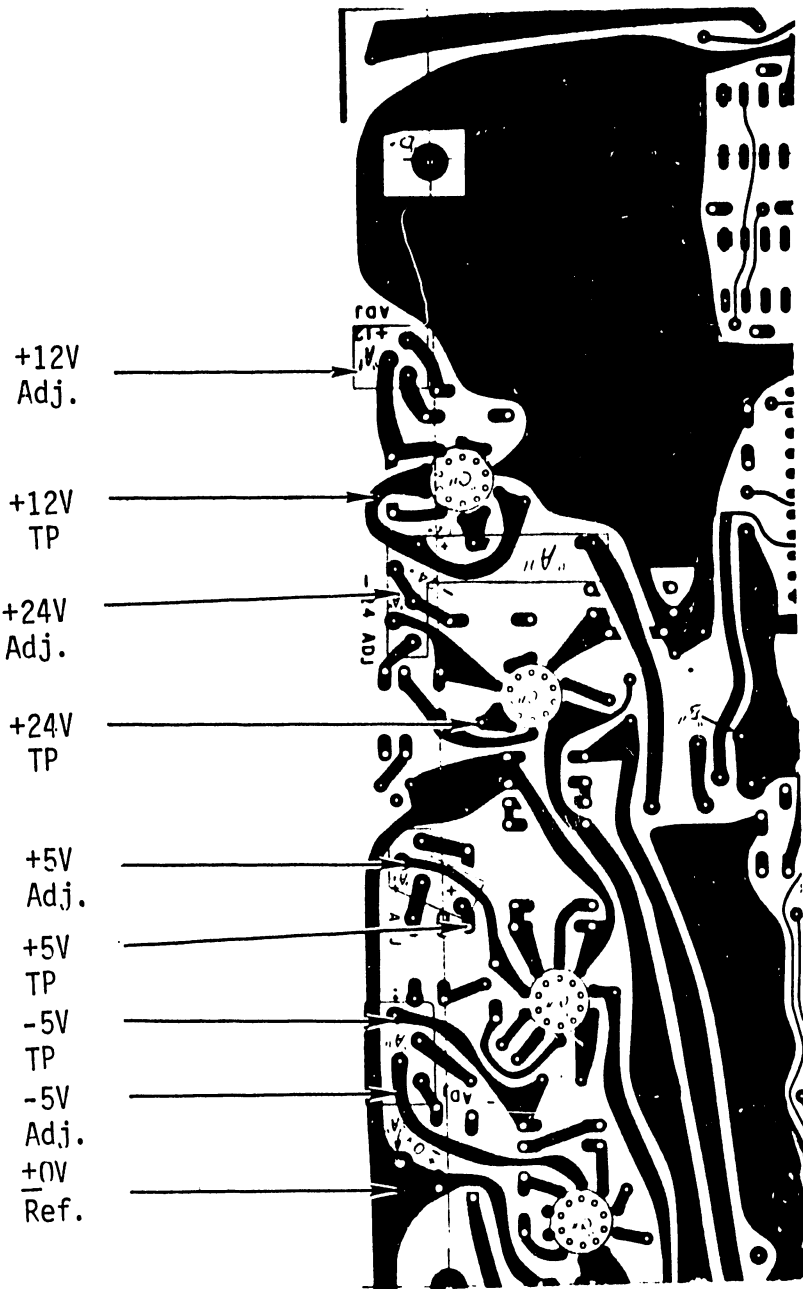

Figure 3-1 Regulated Voltages
3. The voltages can be checked from the wire side of the board by following the diagram below and with the I/O and power cable plugged in and the power switch ON. (See Figure 3-1).